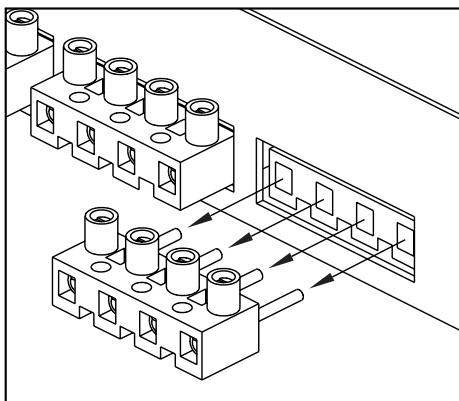
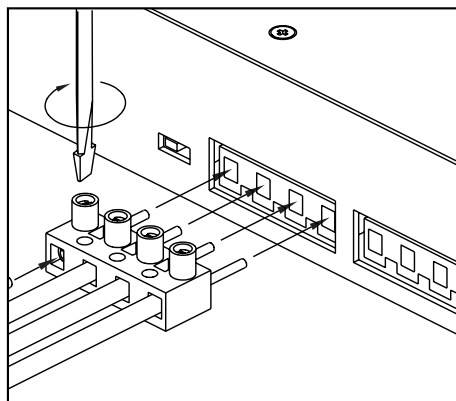

Figure 3
Figure 4
3. Make the connections to the HDL-6. The amplifier/speaker connectors on the HDL-6 are removable. If you wish, you may remove the HDL-6's connectors to facilitate installation see **(Figure 3)**. Strip 3/8" of insulation from the end of each wire. Tightly twist the end of each wire until there are no frayed ends. Insert each wire into the appropriate hole on the spring-loaded connector terminals. Be certain that proper phasing is observed—connect the positive terminals on the HDL-6 to the positive terminals on the amplifier and speakers and the negative terminals on the HDL-6 to the negative terminals on the amplifier and speakers. Re-install the connectors if they were removed. See **(Figure 4)**.